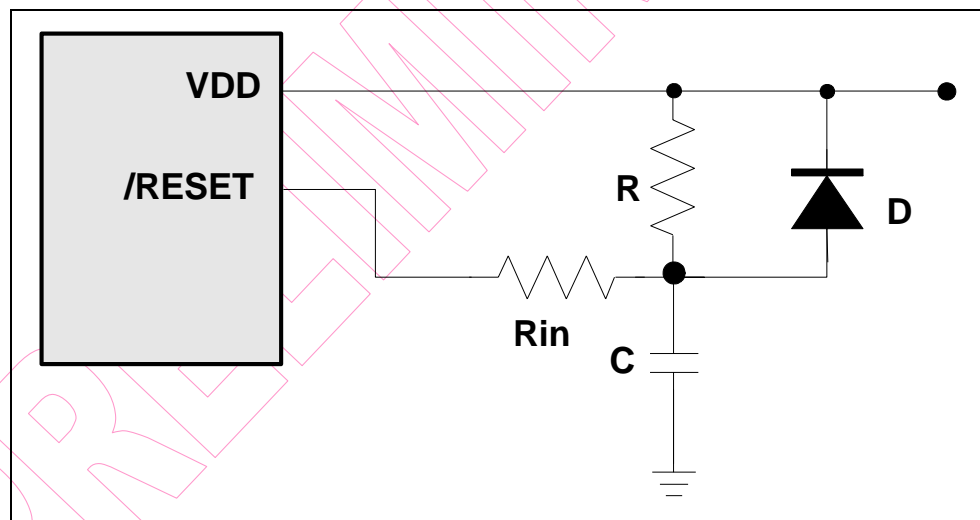

Fig. 6-12 External Power-on Reset Circuit
The circuit shown in Fig.6-12 implements an external RC to produce a reset pulse. The pulse width (time constant) should be kept long enough to allow V_{dd} to reach minimum operation voltage. This circuit is used when the power supply has a slow rise time. Because the current leakage from the /RESET pin is about $\pm 5\mu\text{A}$, it is recommended that R should not be greater than 40K. In this way, the voltage at Pin /RESET is held below 0.2V. The diode (D) acts as a short circuit at power-down. The capacitor, C, is discharged rapidly and fully. R_{in}, the current-limited resistor, prevents high current discharge or ESD (electrostatic discharge) from flowing into Pin /RESET.